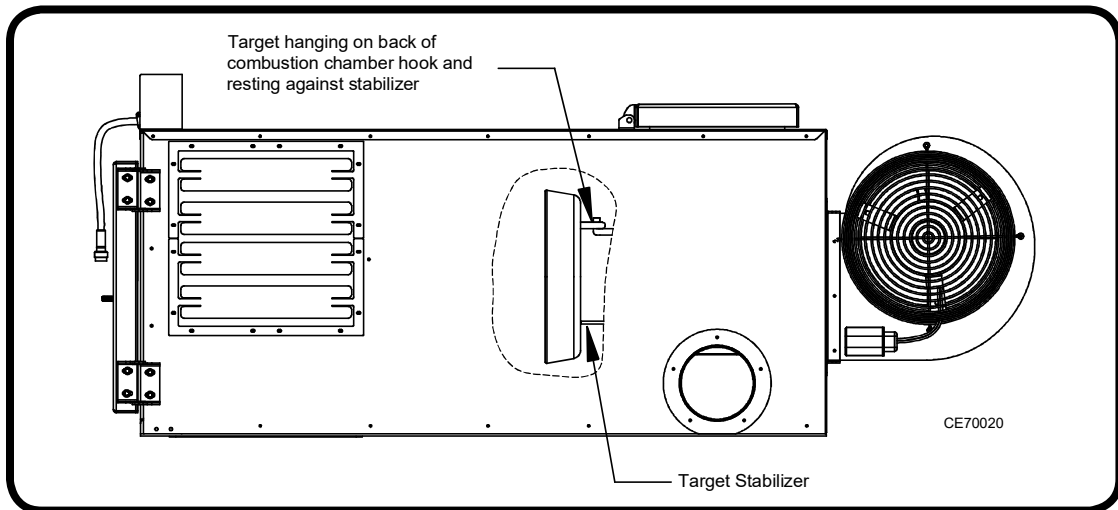

Figure 6: Proper Position of the Combustion Chamber Target
- (1) Refer to Figure 6 to view the proper position of the combustion chamber target.
- (2) Open the front door of the furnace by loosening the two over-center latches and swinging the door open.
- (3) Guide the target toward the back of the combustion chamber. Hang the loop on the back of the target on the hook welded to the back of the combustion chamber.
- (4) Close the front door and secure the two over center-latches.